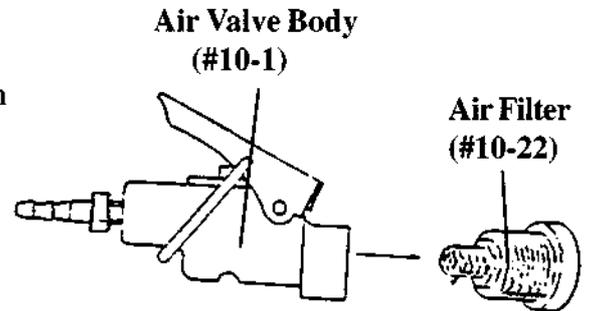

Figure 7
1. Periodically remove the Air Filter (#10-22) located inside the Air Valve Body (#10-1)- see Figure 7. Wash the Air filter in a suitable solvent, and air blow dry, making sure all dust and particles are removed from the filter.